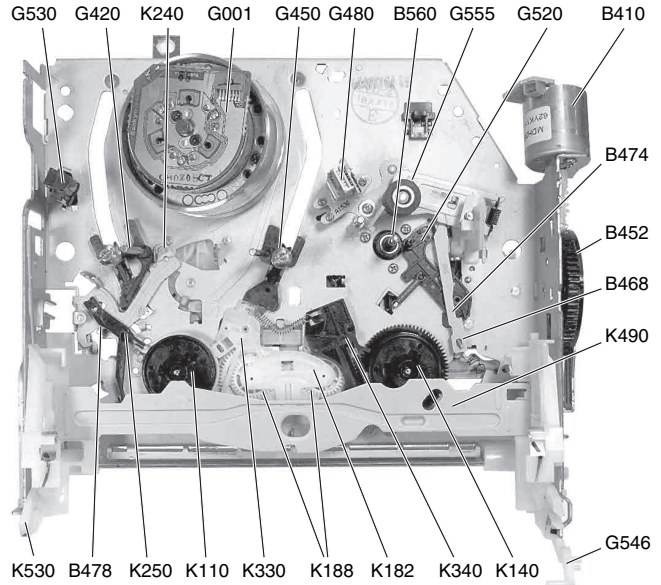
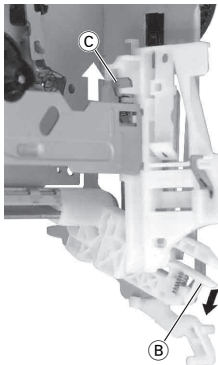

Fig. 1
Fig. 4
- Tense the spring-loaded lift lever **B** (Fig. 4), release the catch **C** then remove the cassette lift (K490, Fig. 1).
- Tense the spring-loaded lift lever **B** (Fig. 4), release the catch **C** then insert the cassette lift into the right guide of the lift lever.